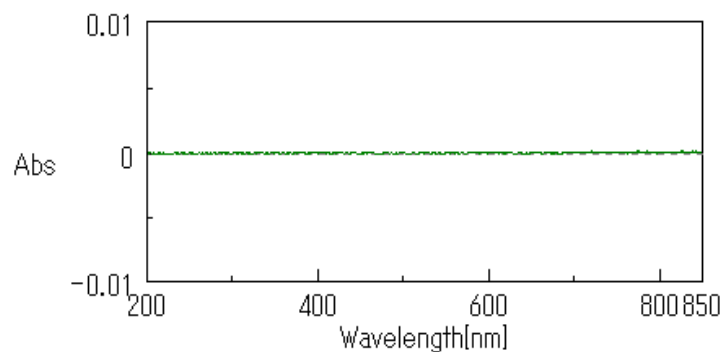

Figure 4.1 Baseline flatness (V-550/560/570)
- (4) Measure baseline spectrum (0 Abs line) as follows. Click the <Start> button to measure the baseline spectrum (0 Abs line) using the above parameters with the sample chamber empty. A measurement example is shown in Fig 4.1.
- (5) The baseline flatness is normal if the measurement result is within the following criterion.
- (2) Set the following parameter and measure the baseline spectrum (0 Abs line) with the sample chamber empty. (Refer to Section 5-3 of the Operations manual.) A measurement example is shown in Fig 4.1.